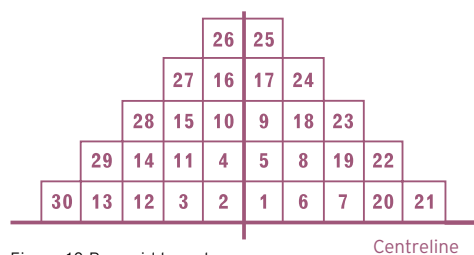

Figure 10 Pyramid layout
Construction of a pyramid should always start at the centre of the baseline, working in the same sequence as shown in Figure 10
- > Lay the first pyramid of tiles from the centrelines, using the sequence shown in figure 10. Ensure a close bond is maintained at all times.